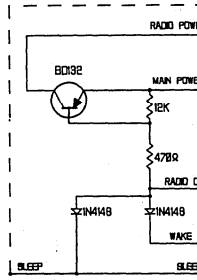

Fig.17 RADIO POWER SWITCHED BY TRANSISTOR
- Option 2 (Fig.17) Power supply switching using Transistor